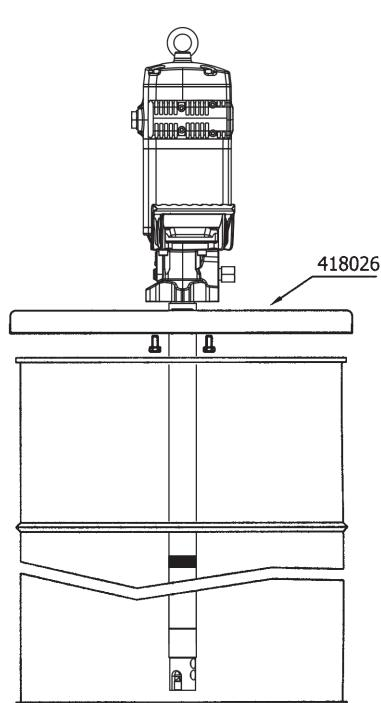

Fig. 1
- a. Mounting with reinforced cover (418026 for 185 kg drum). Insert the pump through the cover and fasten it with the enclosed screws. Insert the pump through the bung opening and fasten the cover onto the drum firmly (see figure 1).